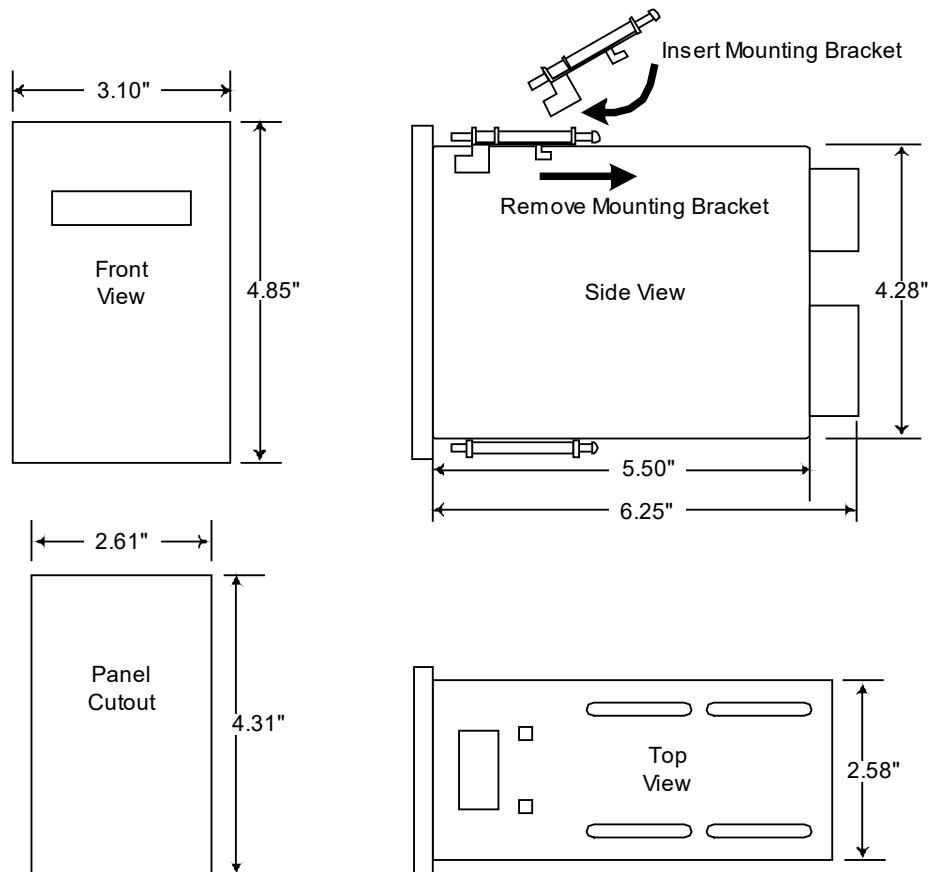

Figure 1: CT6000 Dimensions
1.	Cut a rectangular hole in the panel to the dimensions shown in Figure 1.
2.	Loosen the screws holding the mounting bracket to the CT6000 and remove it, as shown in Figure 1.
4.	Replace the mounting bracket and tighten the screws—do not over tighten. See Figure 1.